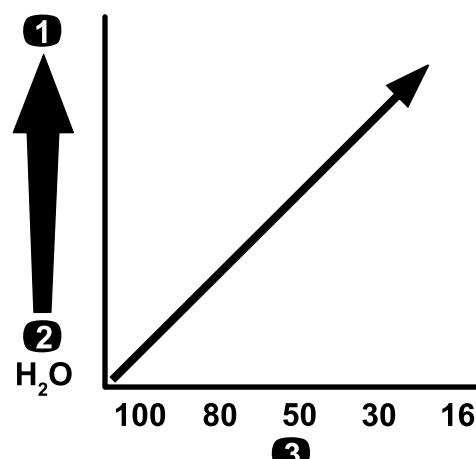

Figure 25
**Important:** When you spray with higher viscosity (thicker) chemical products or solutions with wettable powders, you may need to use a coarser screen mesh for the optional pressure-filter; refer to Figure 25.